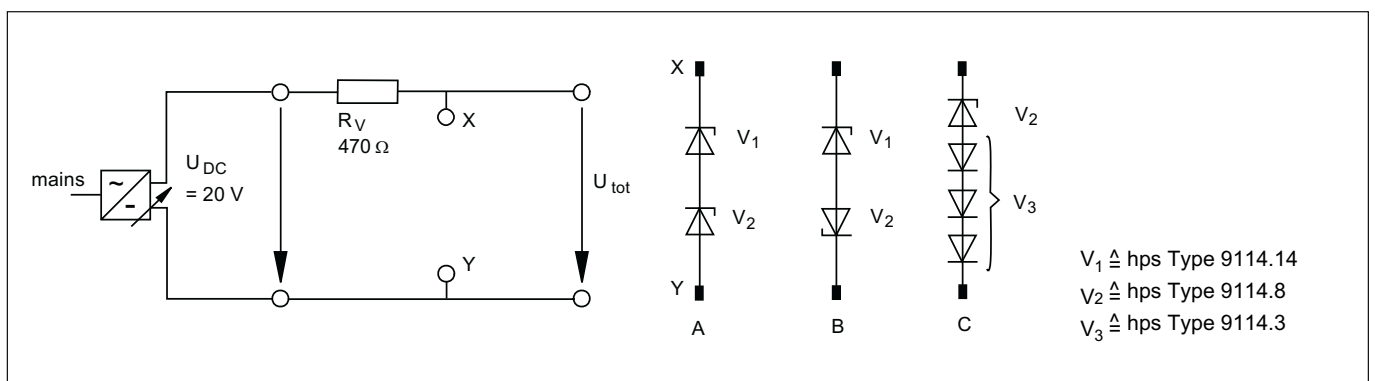

Fig. 2.3.2.1
For the same reason, rectifier and Zener diodes can be connected in series (see Fig. 2.3.2.1).
- Set up the circuit according to Fig. 2.3.2.1, connecting the series connections consisting of Zener and rectifier diodes as per Fig. 2.3.2.1 A ... C. Doing this, measure voltage U_{tot} with the multimeter and enter the measured voltages into Table 2.3.2.1.